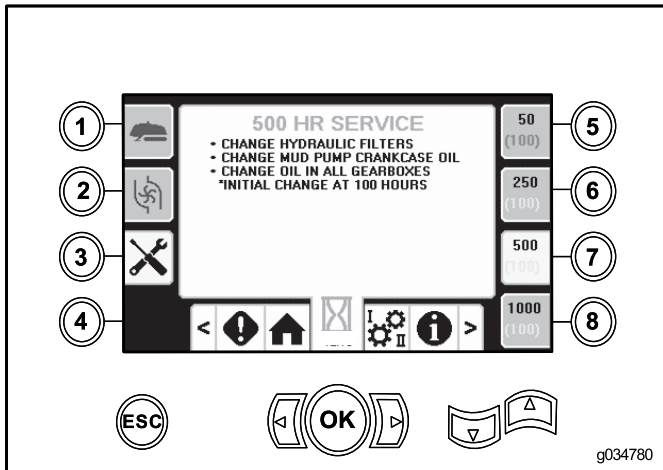

Figure 8
- Button 7—500-hour maintenance schedule (Figure 8)